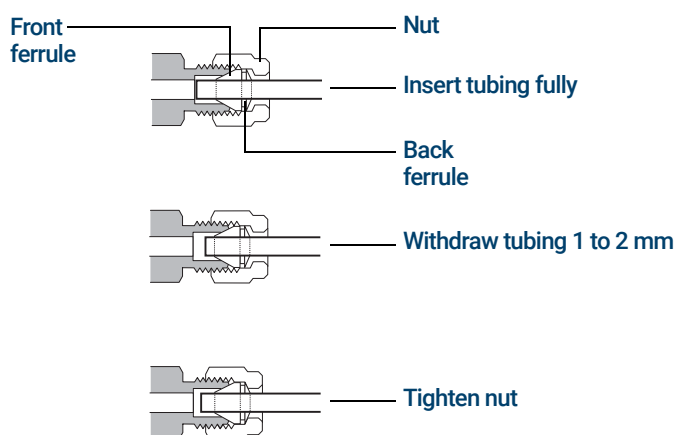

Figure 25. Insert the tubing
- 5 Push the tube fully into the plug, then withdraw it approximately 1 to 2 mm as shown in **Figure 25**.